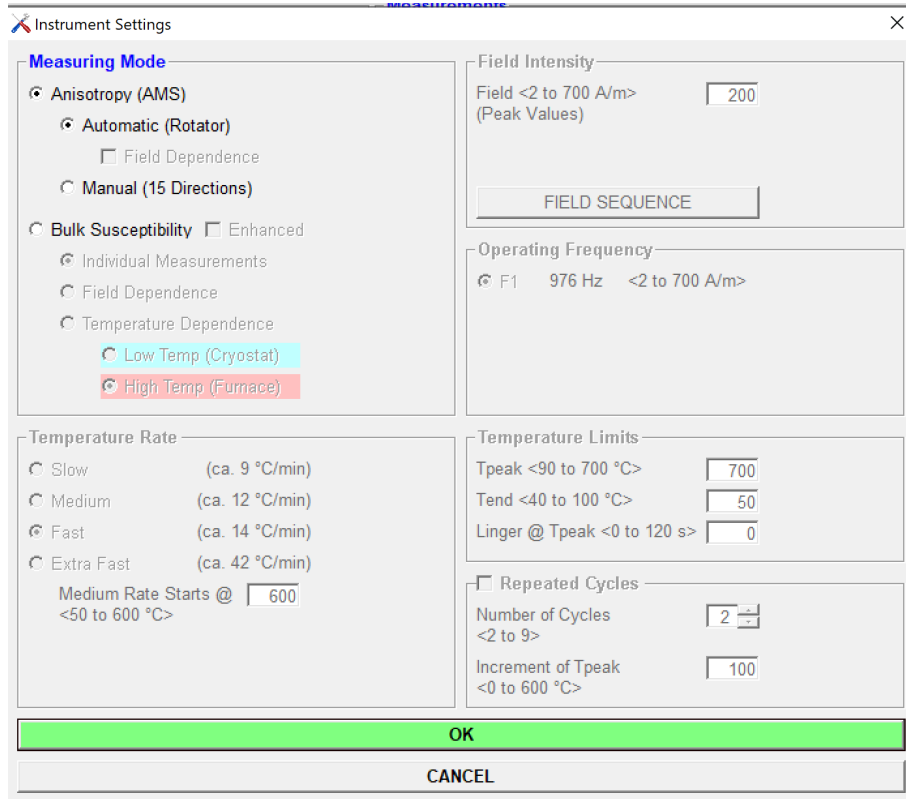

Figure 5: Instrument Settings window
3. The instrument settings window will open (Figure 5) and the user can adjust the measurement mode. Once the instrument mode has been set, select **OK**.